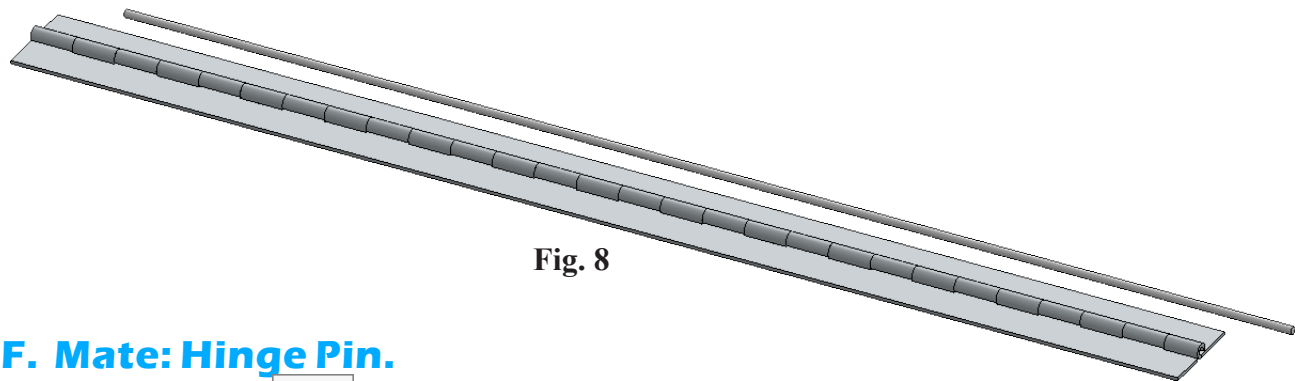

Fig. 8
Step 4. Place Hinge Pin as positioned in **Fig. 8**.